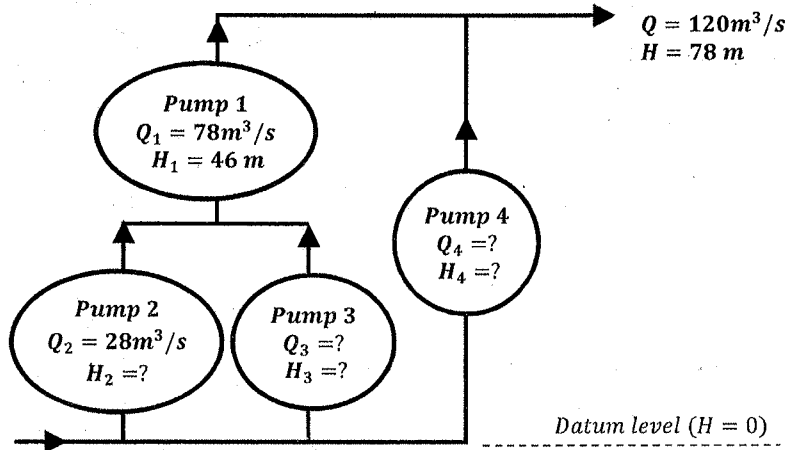

Figure Q5
- (i) Determine the missing flowrates and the pump heads of the pump connection shown in Figure Q5. [4 Marks]